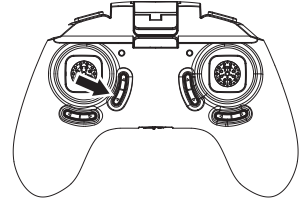

Fig. 6
- To activate the return home function press down the lower manual Trim B button (8) and the quadcopter will begin to move in the backward direction that was set at the time of takeoff. See illustration Fig. 6.